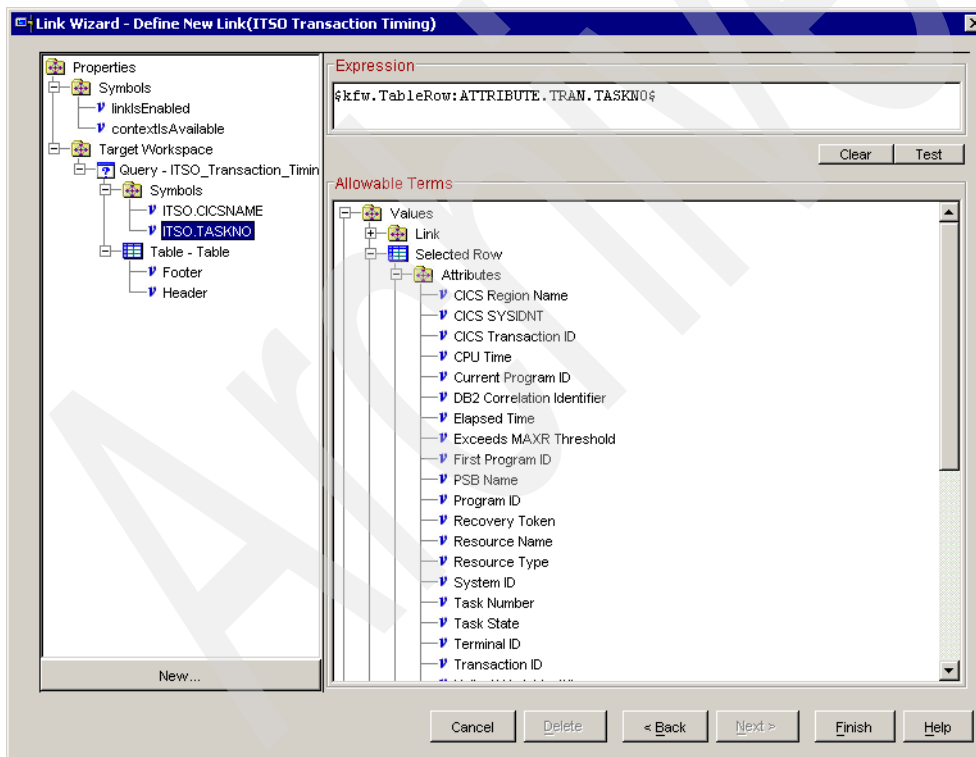

Figure 6-14 Link Symbol specifications for ITSO.CICSNAME and ITSO.TASKNO
4. Assign a value or expression to all link symbols that are displayed in the link wizard expression editor. See Figure 6-14, which shows the link symbol specifications for two variables: ITSO.CICSNAME and ITSO.TASKNO.